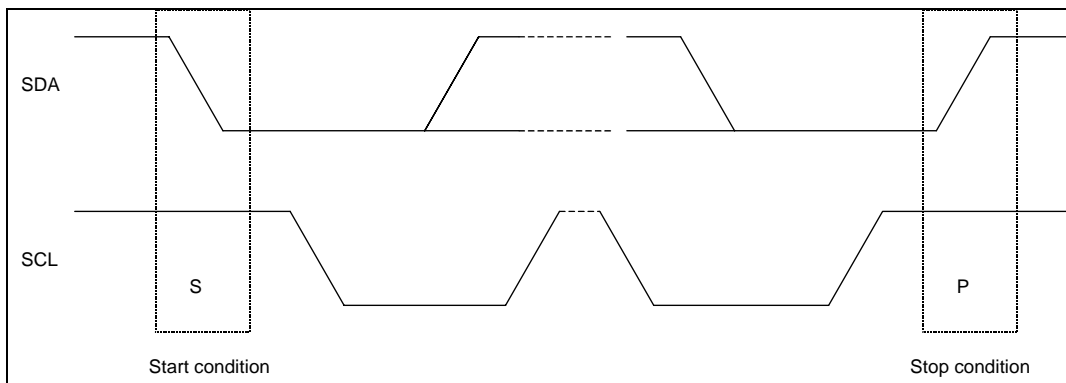

Figure 4: I²C start and stop conditions
Data transfer begins by a falling edge on SDA when SCL is at high level, this is the start condition (S), initiated by the I²C bus master. It is stopped with a rising edge on SDA and SCL at high level, this is the stop condition (P) (see Figure 4: I2C start and stop conditions).